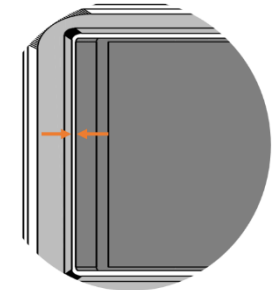

Fig. 14a
- Locate the gaps around the rocker plate (refer to Figure 14a).